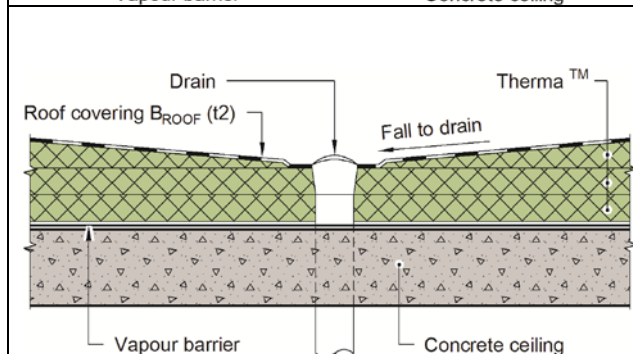

Fig. 7
- Kingspan Therma™ can be used towards and around roof openings (as well as smoke outlets and skylight turrets) without the need to replace with non-combustible insulation (A2-s1,d0). See Fig. 7.